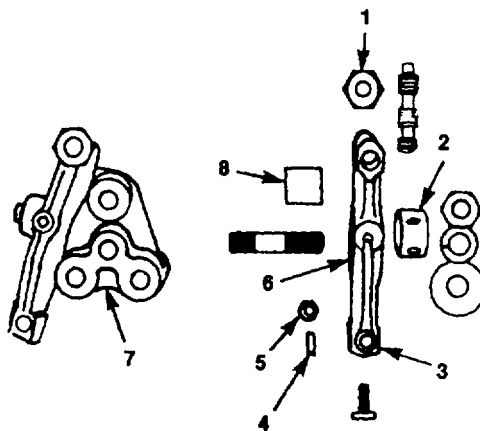

Figure 5-82. Push Rod, Push Rod Tube, and Tappet
1. Ensure rod ends are tightly seated and free from wear (figure 5-82).